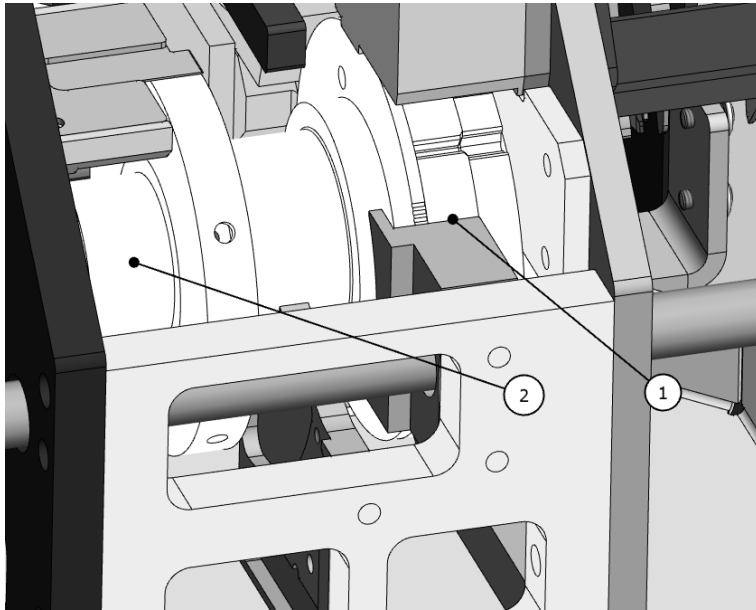

Fig. 15: Oiling the crimping drum
- Oil the support (see fig. 15, item 1) and bearing assembly (see fig. 15, item 2) of the crimping drum.